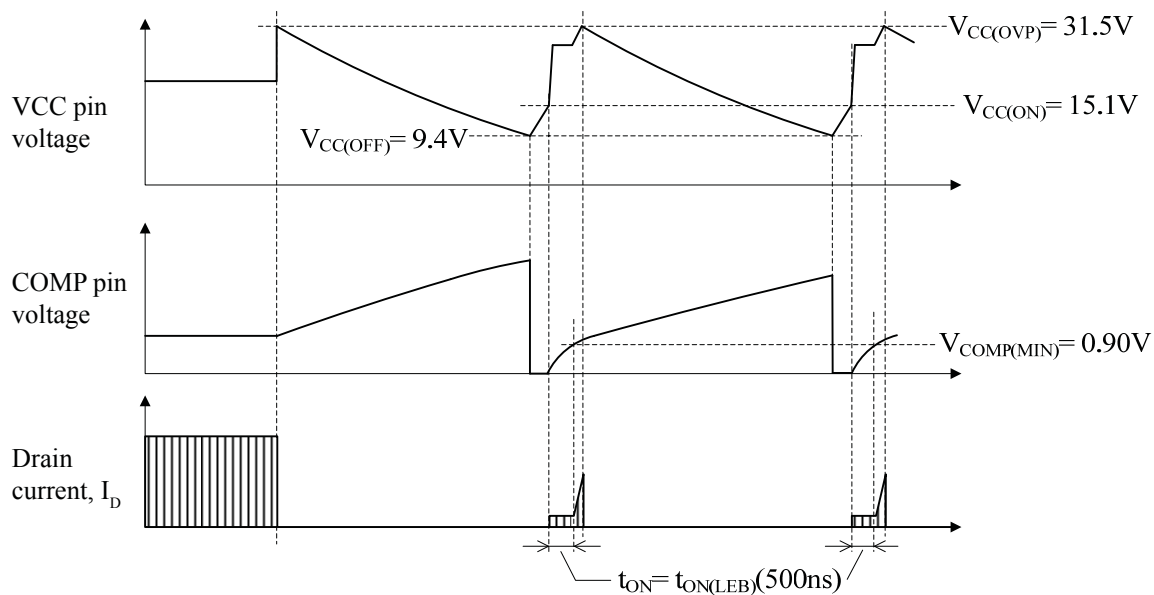

Figure 34. Waveforms when VCC pin OVP is being activated (LC551xD)
- **VCC Pin Overvoltage Protection.** figure 34 shows the waveforms of the OVP function on the VCC pin. When the VCC pin voltage with reference to the S/GND pin reaches and exceeds $V_{CC(OVP)} = 31.5\text{ V}$, OVP is activated and the IC stops switching